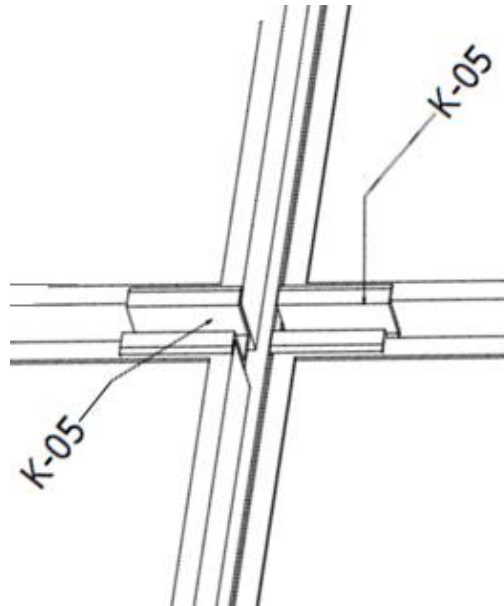

FIG. 19. Assembling the modules to maintain an even distance
- 18.** The modules should be assembled row by row starting from the bottom row and after initial tightening of the following consecutive clamps. Centre clamps can be used as a spacer between the modules for mounting at equal intervals in the next row, and should be pulled out after installation – Fig. 19.